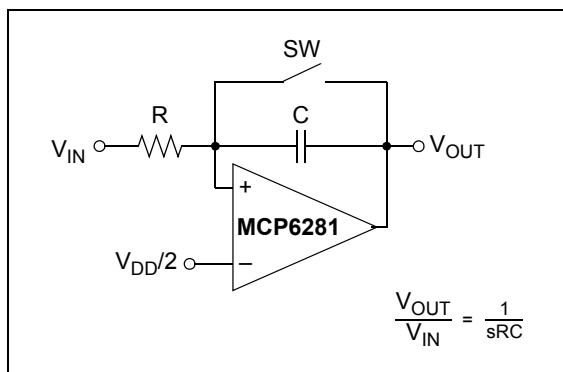

FIGURE 4-9: Miller Integrator.
Analog integrators are used in filters, control loops and measurement circuits. Figure 4-9 shows the most common implementation, the inverting Miller integrator. The non-inverting input is at $V_{DD}/2$ so that the op amp properly biases up. The switch (SW) is used to zero the output in some applications. Other applications use a feedback loop to keep the output within its linear range of operation.